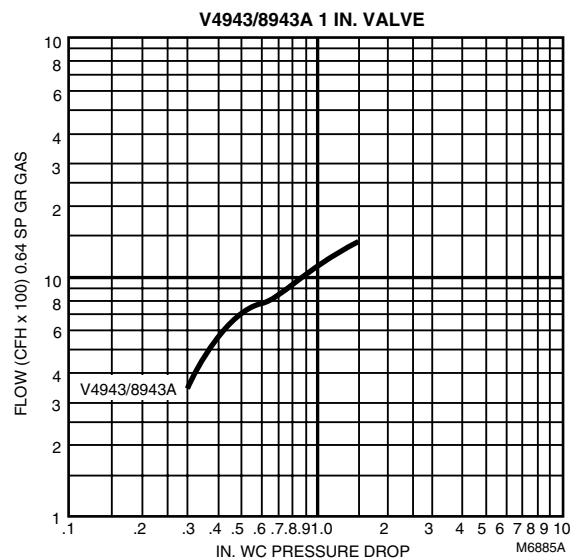

Figure 2. Capacity vs pressure drop curves for 1 in. valve.
5. Use the corrected capacity in cfh when determining the gas valve size in Fig. 2 through 5.
6. Determine the maximum pressure drop across the valve and draw a vertical line at this pressure on Fig. 2, 3, 4, or 5.
4. Find the valve size in Fig. 2 through 5.